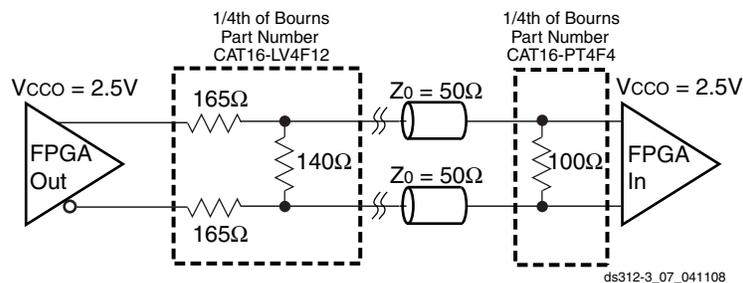

Figure 71: External Termination Resistors for BLVDS Transmitter and BLVDS Receiver
2. Output voltage measurements for all differential standards are made with a termination resistor (RT) of 100Ω across the N and P pins of the differential signal pair. The exception is for BLVDS, shown in Figure 71.